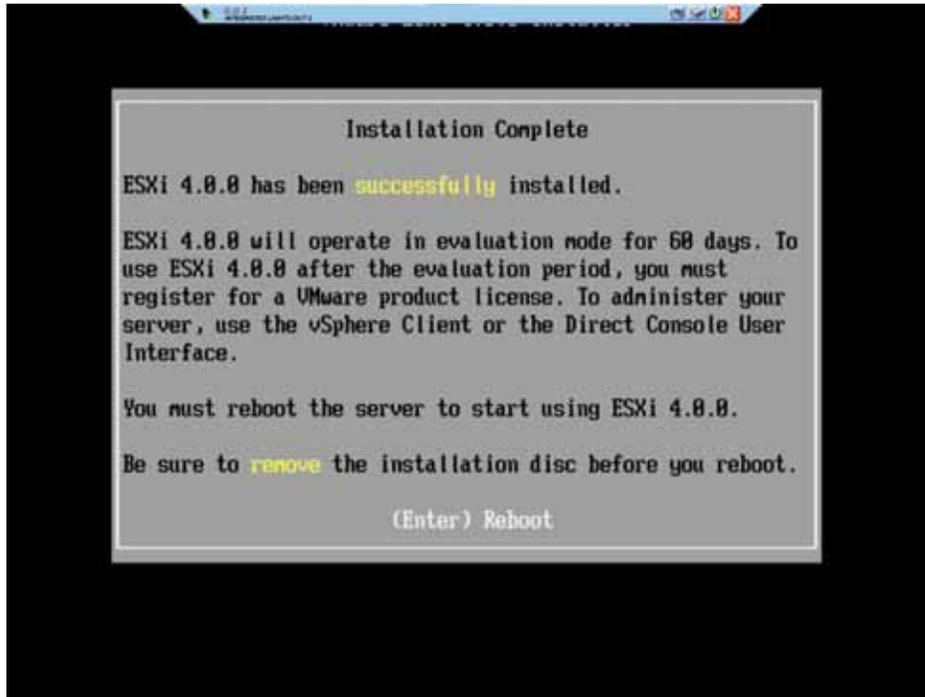

Figure 19 Installation Complete
- Step 7 When the correct boot disk is confirmed, the installation runs to completion. The Installation Complete dialog is displayed. Figure 19 shows this dialog.